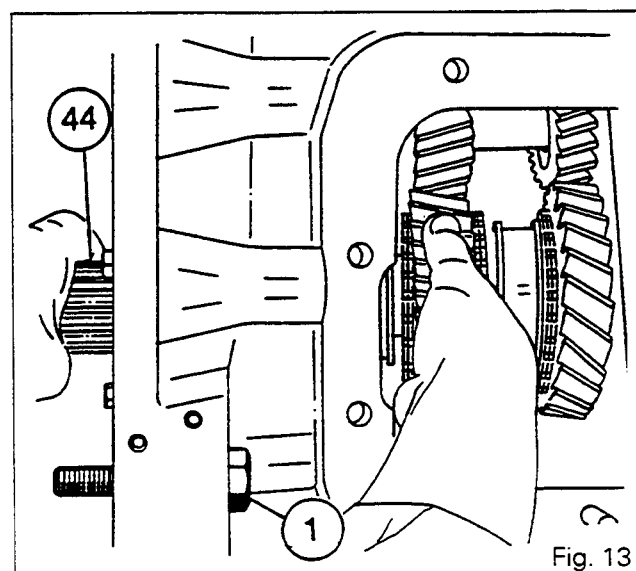

Fig. 13
45. Insert the output shaft (44) while holding the gear assembly in position (see Fig. 13).
46. Pull the shaft slightly back in order to expose the groove for the snap ring (34).
90. Fit the bolt (1) (Fig. 13), if fitted, see section 5 C01 or 5 C02 in according to version.